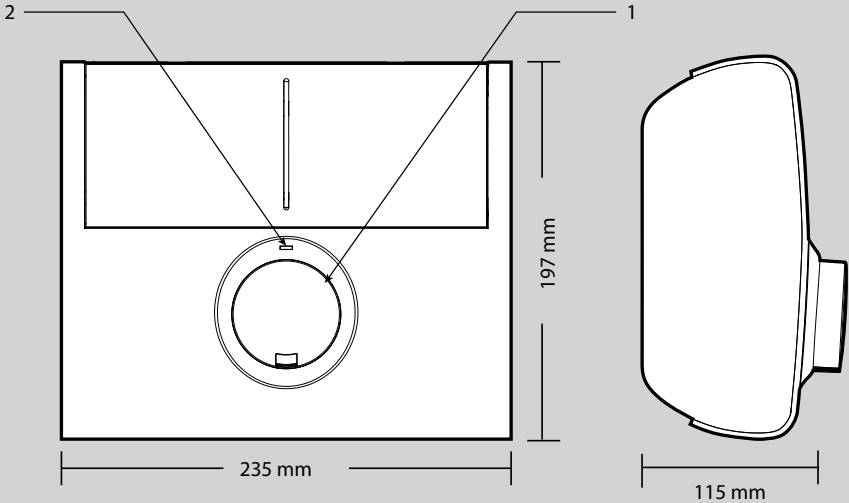

Fig 3
| 1. Knob control (Fig3)         | 8. Inlet (cold water)                |
| 2. Power light (Fig3)          | 9. Outlet (hot water)                |
2. Adjust the power to the desired level using the knob on the front cover of the unit (fig 3 no. 1).